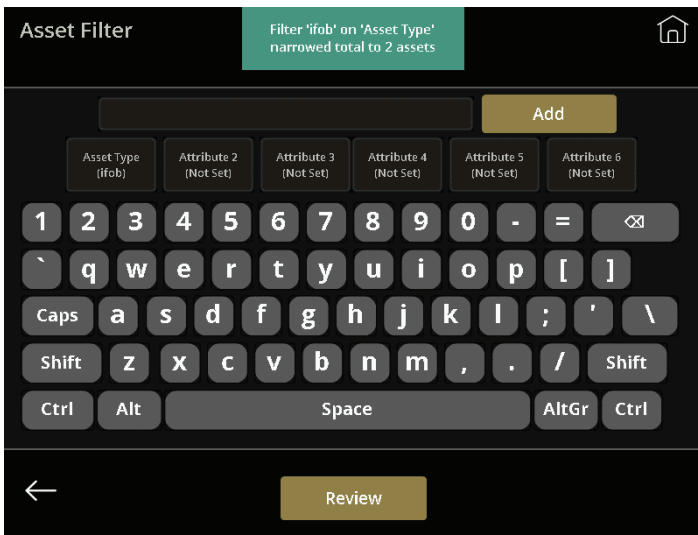

Figure 32: Filter Screen
Now the 'Asset Type' filter button says "iFob" and the green message box indicates the filter narrowed the total to two (2) assets (figure 32).